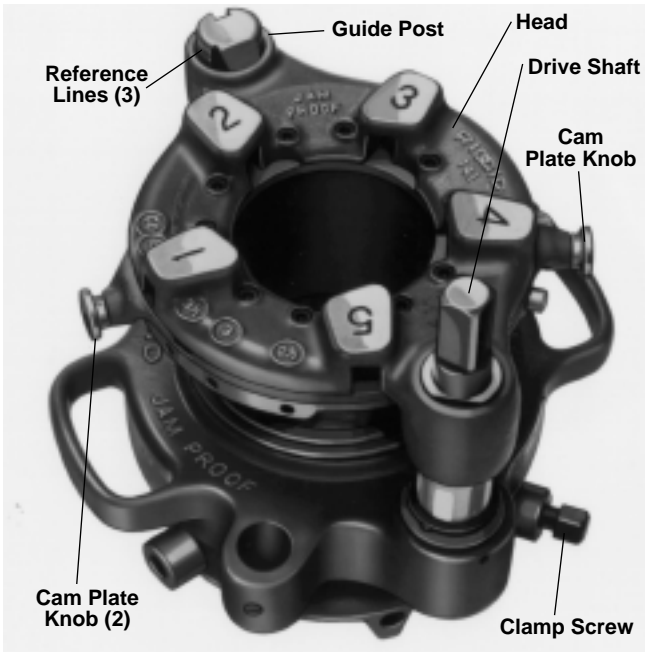

Figure 22 – No. 141 Geared Threader Showing Pinion Sleeve and Guide Post Reference Lines
Grasp workholder and turn square end of drive shaft or turn gear case by hand to respective reference lines on guide post (Figure 22).
4. Turn guide post until straight slot faces inward for straight thread. For tapered threads set tapered slot inward. *Figure 22* shows guide post set to cut tapered thread.